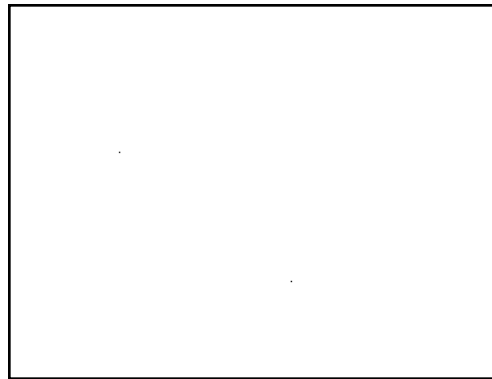

Figure 23
- Step on “Sure-Lock” release handle to unlock “Sure-Lock” force clamp from mainframe. (See Figure 23.)